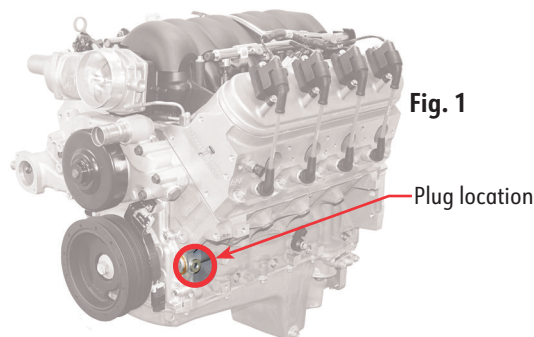

Fig. 1
- 5 Locate and remove the front, left oil galley plug from the engine block. (Fig. 1) *PSLS3760CTF used for reference.